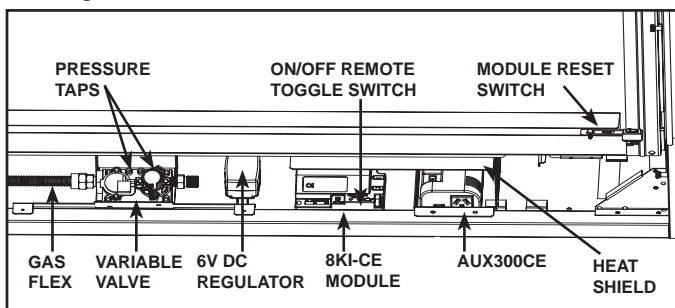

Figure 16.2 Valve Components
2. Locate the control module. See Figure 16.2.